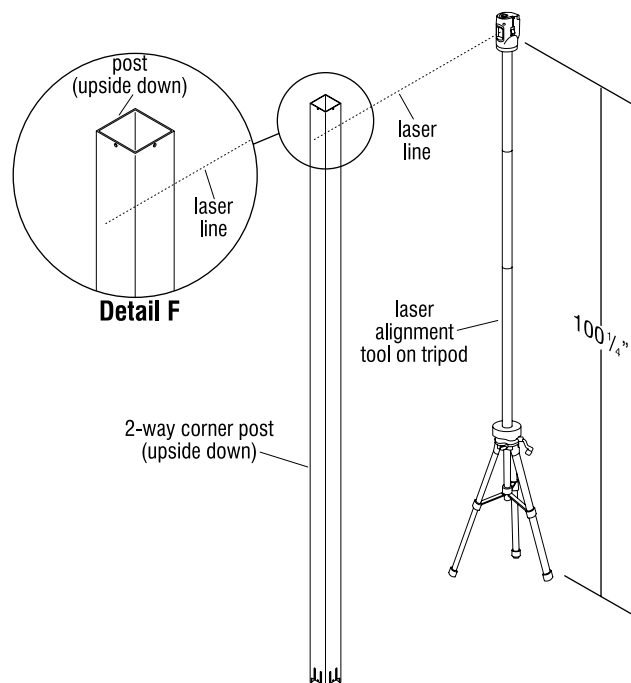

Figure 4
upside-down and perfectly plumb as illustrated, and centered directly over the marked location on the floor (Figure 4 & Detail A).
6. Holding the 2-way corner post exactly centered on the mark for future post location, on the floor and upside down (top-of-post notches face down), use a level to make sure the post is plumb. Assure the laser level is set at  $100\frac{1}{4}"$  off the floor in the doorway and mark the location where the laser line hits the bottom of the post (Figure 4 & Detail A).